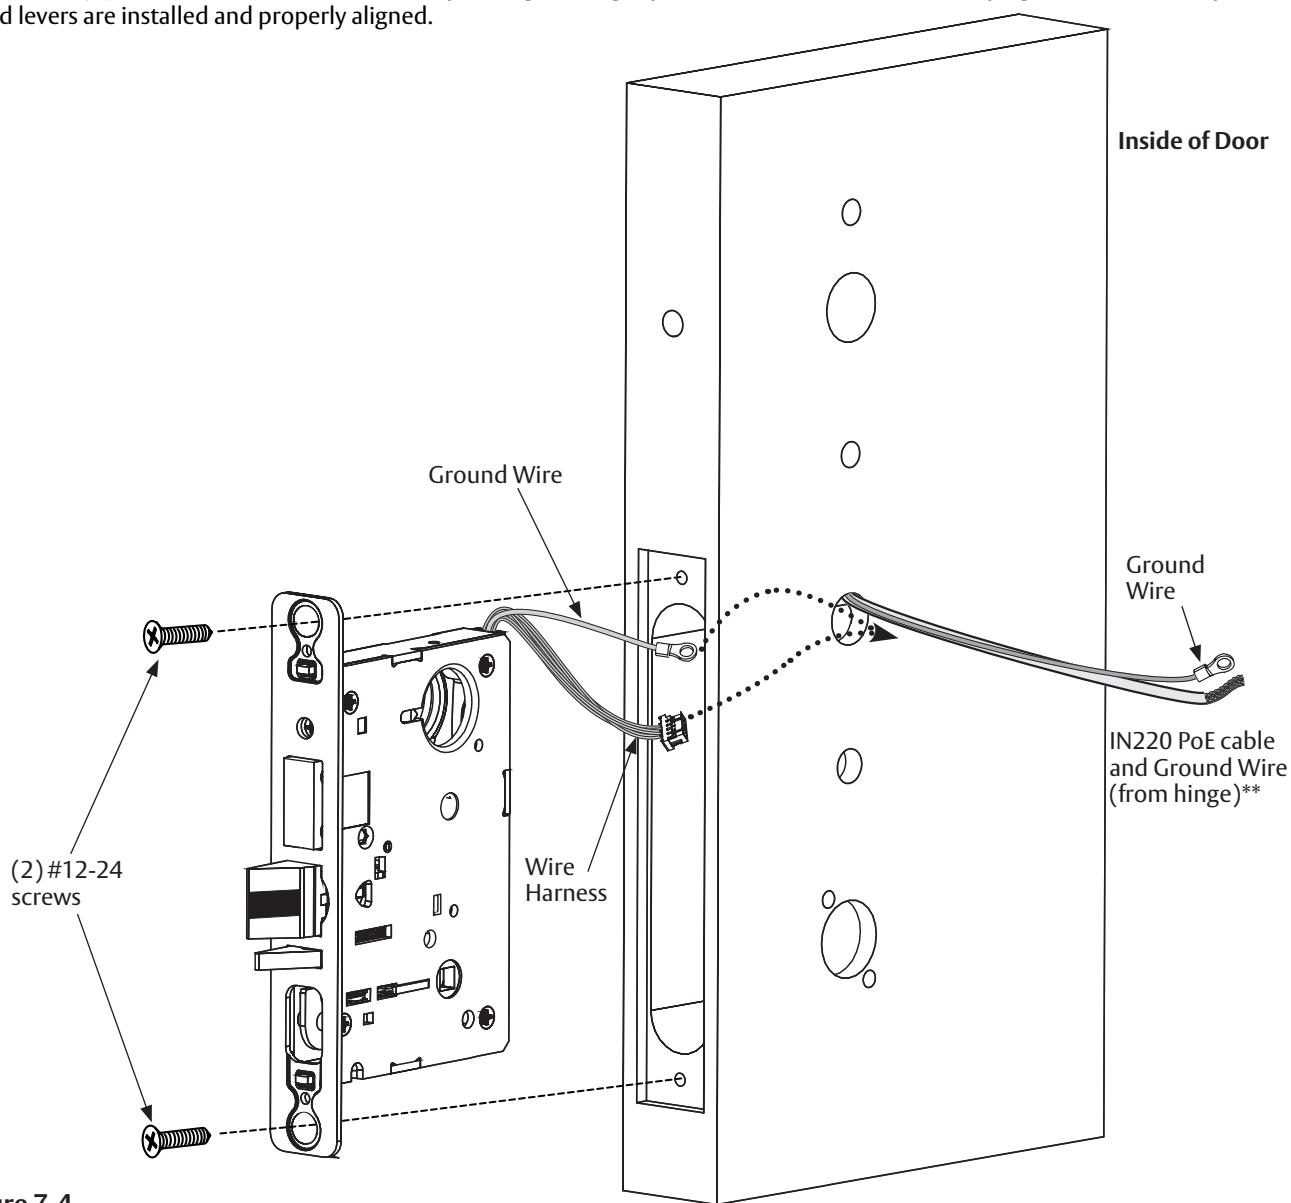

Figure 7-4
1. Feed the wire harness into the mortise pocket and through inside preparation hole. (Figure 7-4)
3. Insert two (2) #12-24 screws into the lock body and tighten slightly with a screwdriver. DO NOT fully tighten screw until cylinder and levers are installed and properly aligned.